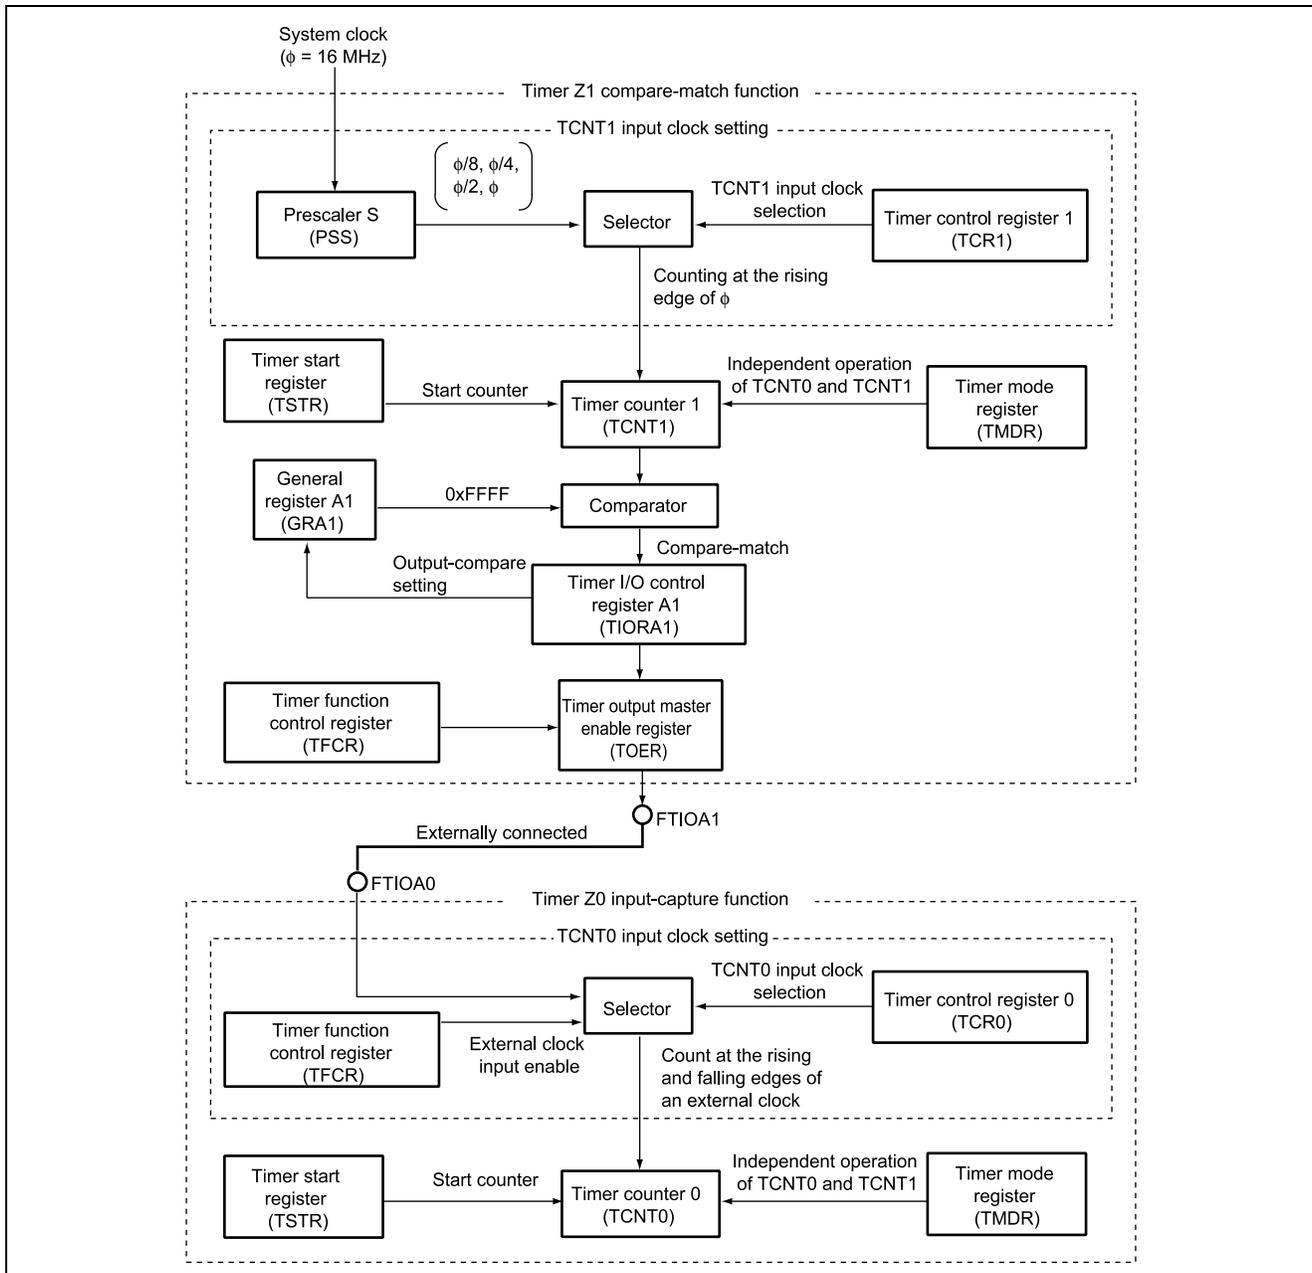

Figure 2.1 Block Diagram of the 32-bit Counter Using Timer Z Cascaded Connection
1. In this sample task, timer Z timer counter 0 (TCNT0) and timer counter 1 (TCNT1) are connected in cascade to form a 32-bit free-running counter. Figure 2.1 is a block diagram of timer Z. The elements of the block diagram are described below.